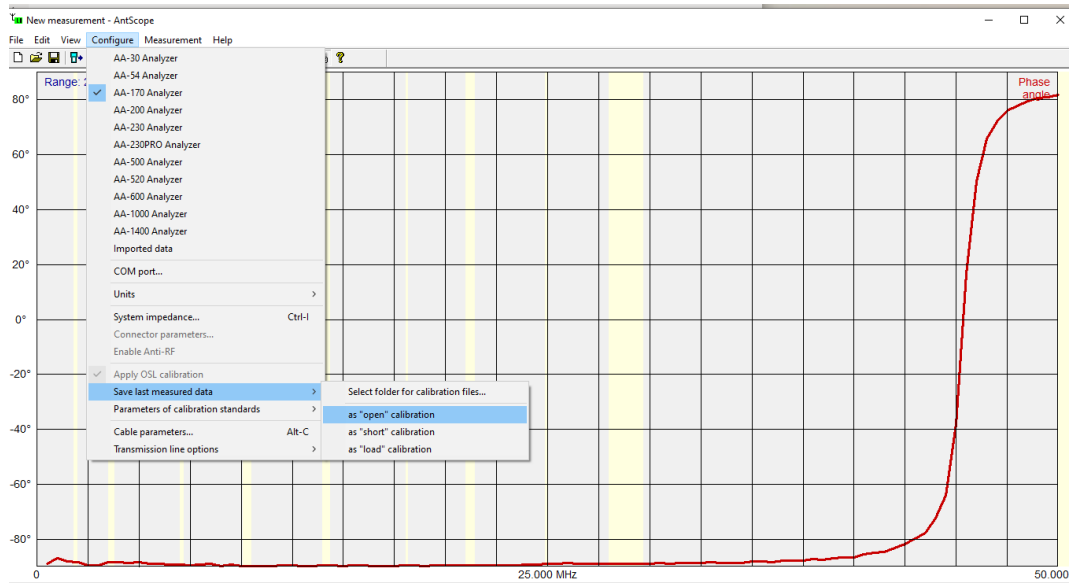

Figure 9-32: Configure > Save last measured data > as “open” calibration
- To save the calibration, select **Configure > Save last measured data > as “open” Calibration** as shown in Figure 9-32.